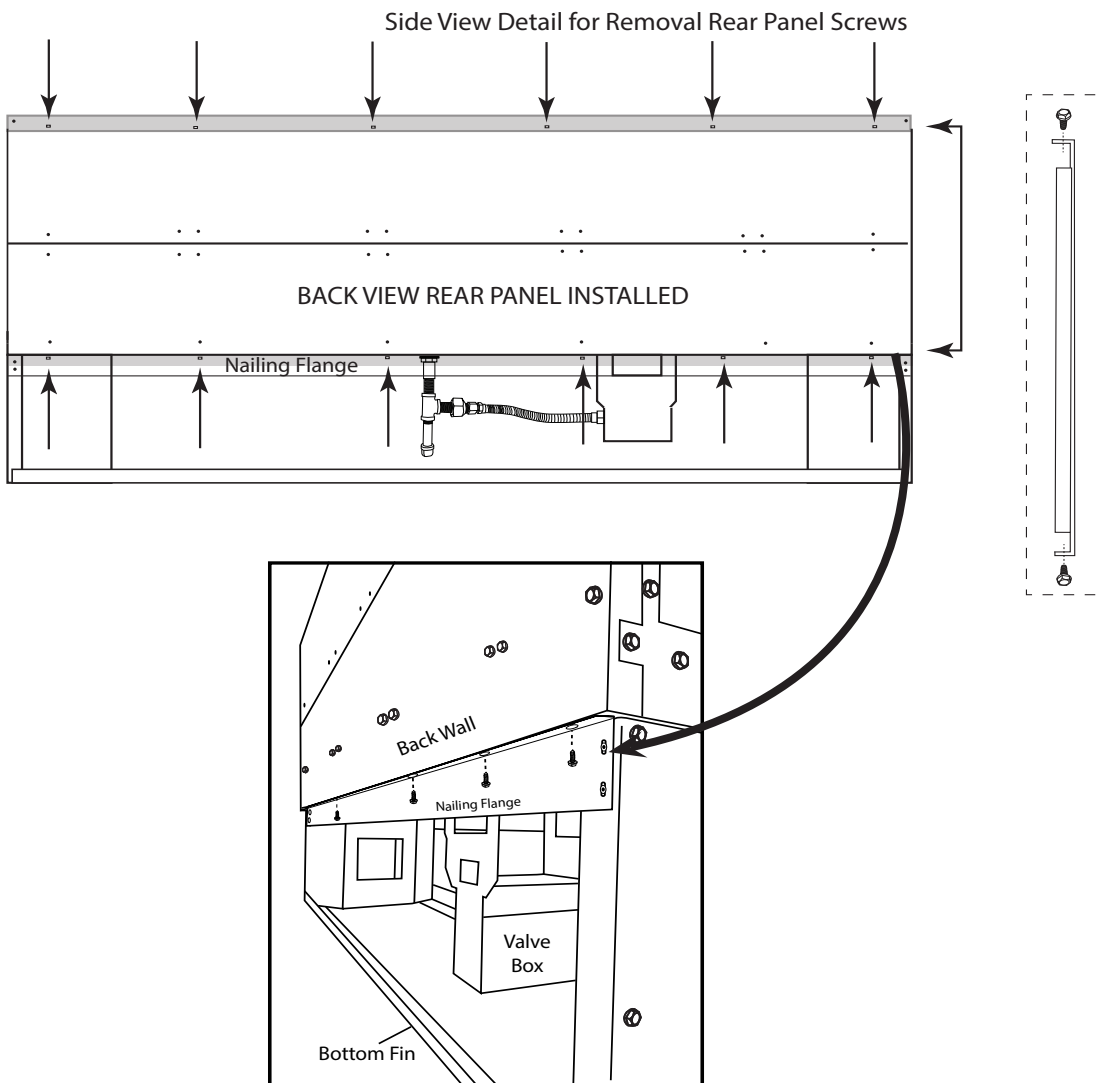

Figure 9 - Removing back wall to convert to see-through model.
Step 1. Look at the back side of the fireplace. Around the outer perimeter area of the frame or back wall are several screws to remove (See the shaded area in Figure 9). Only remove the top and bottom screws on the rear panel. The nailing flange will remain in place. The back panel will remove as one panel. The number of screws removed will vary with each fireplace model.